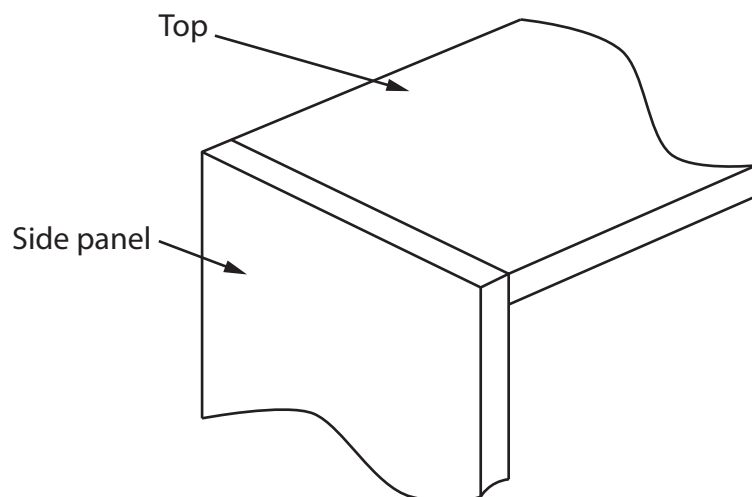

Figure 11
Figure 11 shows the top of the desk tidy joined to the side panel.
- (d) Give **two** different methods of assembly that could be used to join the corrugated board top and side panel as shown in Figure 11.